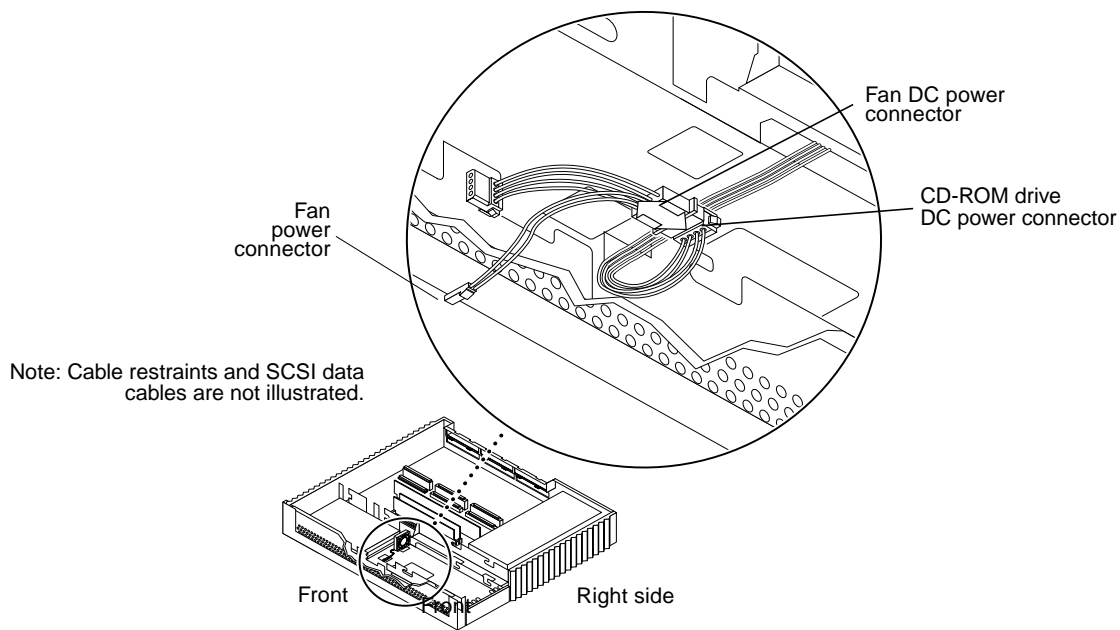

FIGURE 8-21 Disconnecting the Fan Power Connector
- 6. Disconnect the fan DC power connector from the CD-ROM drive power connector (FIGURE 8-21).**